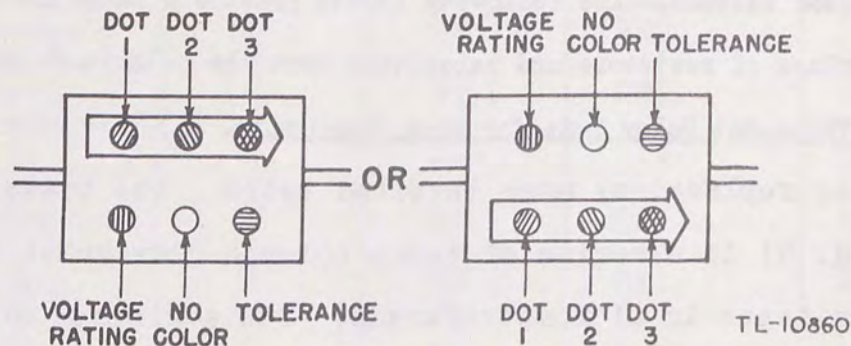

Figure 9. Molded-mica capacitors, three-dot color code.
g. The Three-dot Color Code for Mica Capacitors. (1) This code is gradually being replaced by more involved codes. The basis of this code (fig. 9) is a series of three colored dots which indicate the capacitance in micromicrofarads. Two auxiliary colored dots indicating the voltage rating and the capacitance tolerance are sometimes added. Usually an arrow is molded or stamped on the case of the capacitor to indicate the sequence in which the dots are to be read. Dots 1 and 2 show the first two digits of the capacitance in micromicrofarads, while dot 3 indicates the decimal multiplier to be used. As an example, a 0.006-microfarad capacitor (6,000 micromicrofarads) is marked by the three dots in sequence, as follows:
(2) When the dot indicating tolerance is used, it is usually located above or below the third (decimal multiplier) dot. The color of the tolerance dot corresponds to tolerance between plus or minus 1 percent and plus or minus 20 percent. For example: a green tolerance dot is used on capacitors having a tolerance of plus or minus 5 percent (fig. 9).
(3) When the voltage dot is used, it is located above or below the first (first digit) dot. According to the code of figure 9, the various colors denote the d-c working voltage.
(4) Both of the auxiliary dots are omitted for capacitors having a tolerance